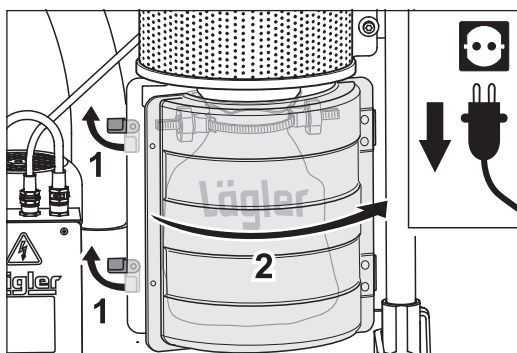

Fig. 9 Open the dust bag box by turning the two fasteners upwards (1) and open up the movable half of the dust bag box (2).
- 7 Open the dust bag box by turning the two fasteners upwards (fig. 9, 1) and open up the movable half of the dust bag box (fig. 9, 2).